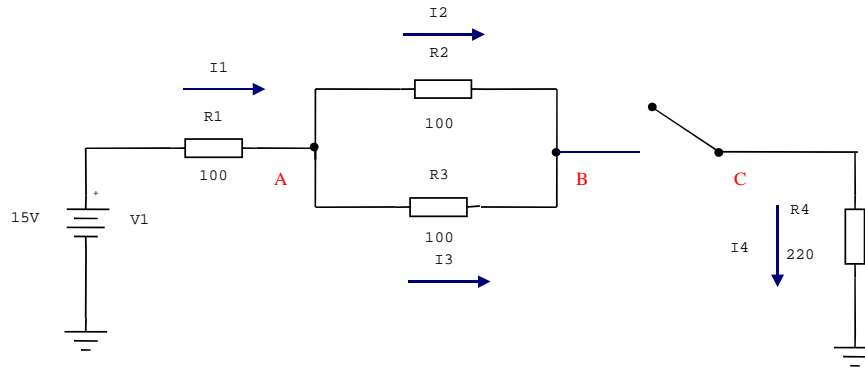

Figure 1: DC circuit with resistors.
a) Assemble the circuit in Figure 1 on the connection board; connecting the power supply according to the polarity marked, that is, the ground terminal of the circuit must be